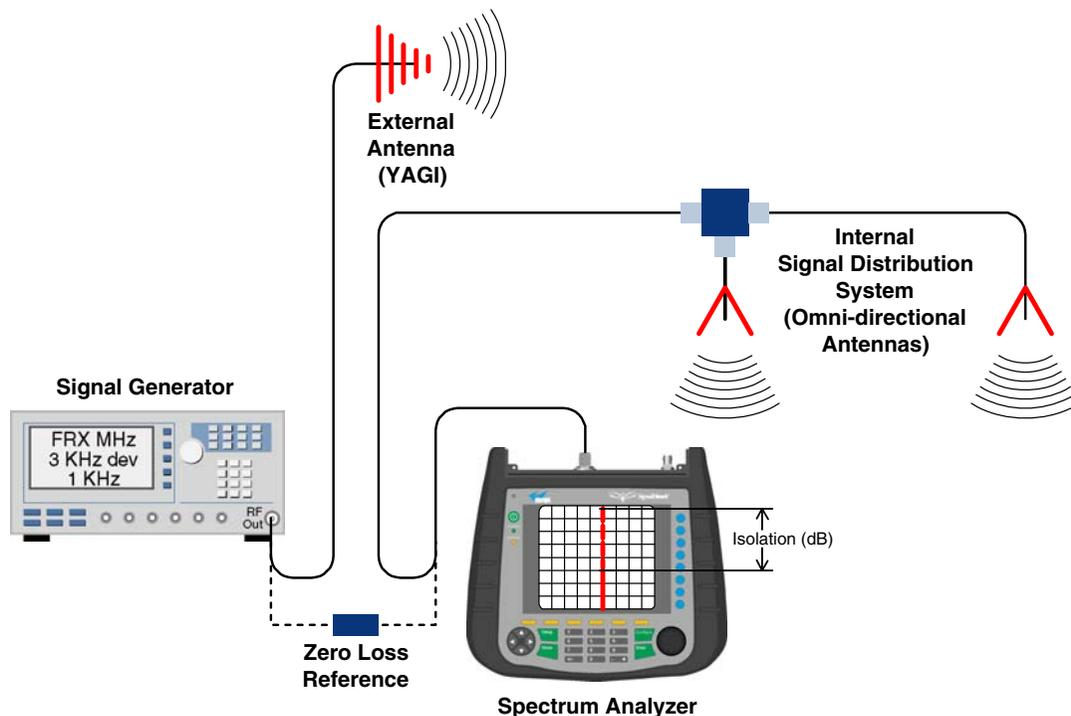

Figure 3: Typical test equipment interconnection for measuring antenna isolation.
- 3) Temporarily connect the test leads of the signal generator and spectrum analyzer together using a female barrel connector, see **Figure 3**. Observe the signal on the analyzer and adjust the input attenuator of the spectrum analyzer for a signal level that just reaches the 0 dBm level at the top of the graticule.
- 4) Referring to figure 3, connect the generator test lead to one side of the antenna system and the spectrum analyzer to the other side of the antenna system then observe the signal level. The difference between the observed level and 0 dBm is the isolation between the sections. If the signal is too weak to observe, the spectrum analyzer's bandwidth may have to be narrowed and it's input attenuation reduced. The isolation value measured should exceed the signal booster's gain figure by at least 15 dB.